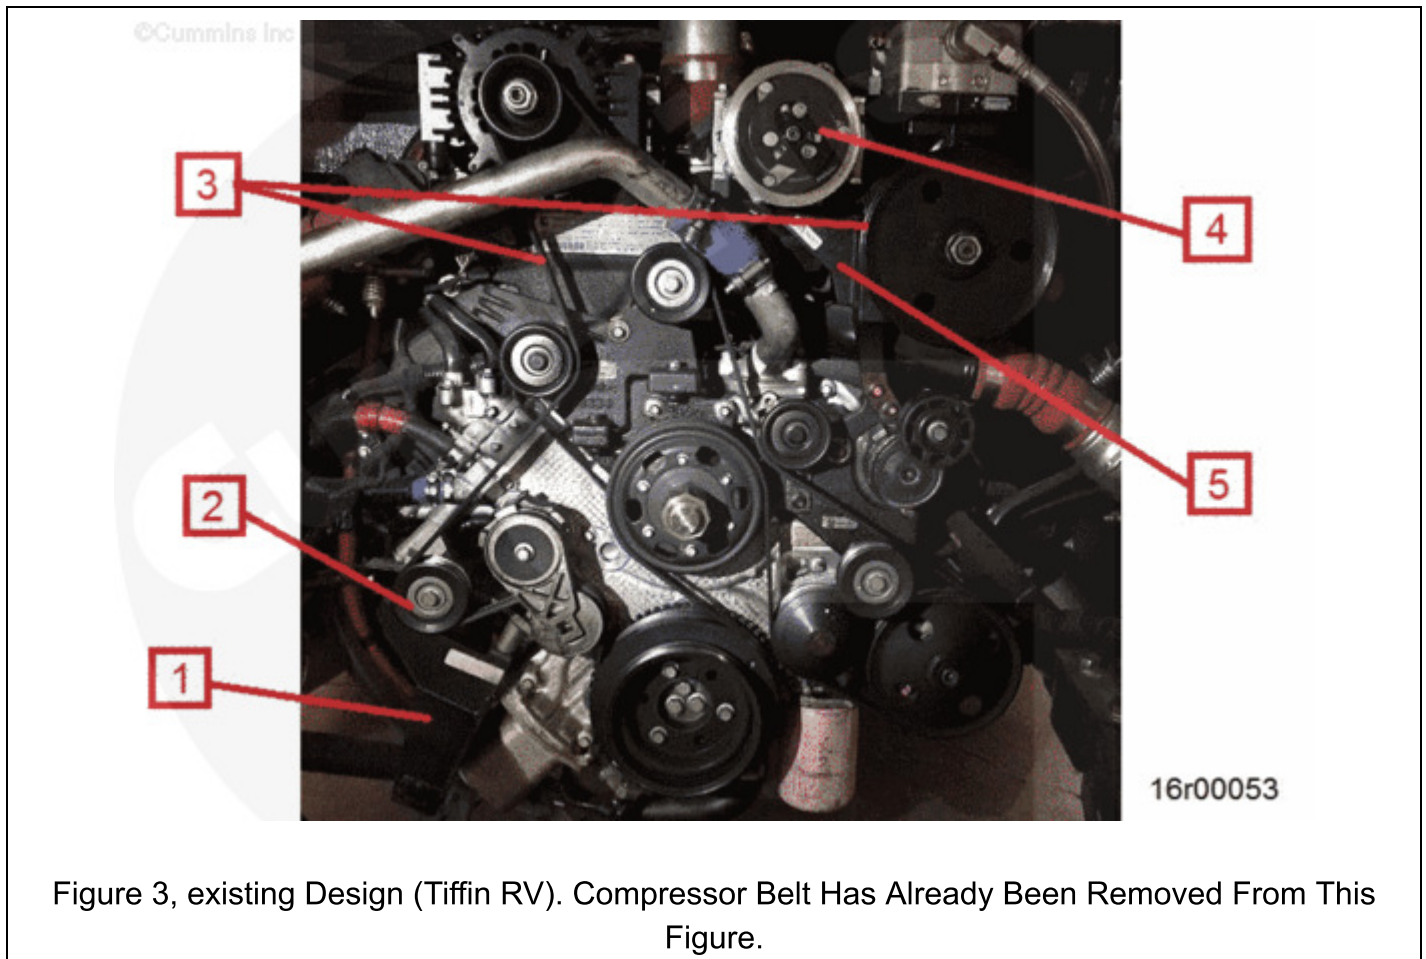

Figure 3, existing Design (Tiffin RV). Compressor Belt Has Already Been Removed From This Figure.
4. Remove and discard belts, Part Number: 4335361 and 4335602 (Figure 3).
5. Remove and discard lower idler pulley assembly, Part Number 4390735 (Figure 3).
6. Remove refrigerant compressor (Figure 3) from upper refrigerant compressor support.
- a. Mounted on refrigerant compressor support bracket, Part Number 4360003 (Figure 3).